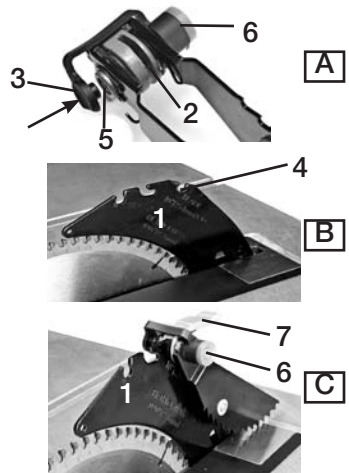

FIG 8
2. Place the anti-kickback pawl assembly over the "keyhole" slot (4) on the splitter (1). Depress the plastic cap (3) on the lock pin (5) in the direction shown on FIG 8-A, Rotate the lever (7) downwards, and make sure the lock pin fully engages the slot (4). See FIG 8-C
4. Release the plastic cap (3) to secure. See FIG 8-C. Make sure there is no movement of the anti-kickback pawl assembly.